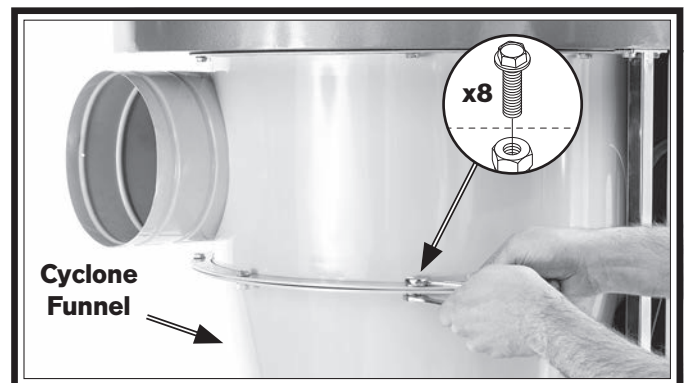

Figure 14. Attaching funnel to intake barrel.
- Attach cyclone funnel to intake barrel using (8) $\frac{5}{16}$ "-18 x $\frac{3}{4}$ " flange bolts and $\frac{5}{16}$ "-18 lock nuts (see **Figure 14**).